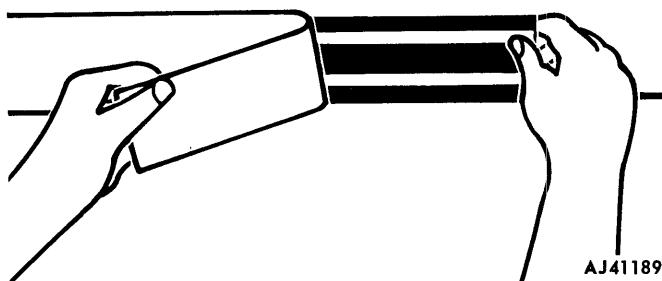

Fig. 20-17 Removing Backing Paper
(5) Remove approximately 6 inches of paper backing from one end (fig. 20-17).